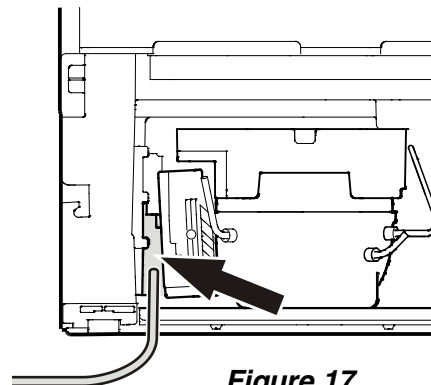

Figure 17
2. Insert the water supply line into its intended opening at the back of the appliance (Figure 17).